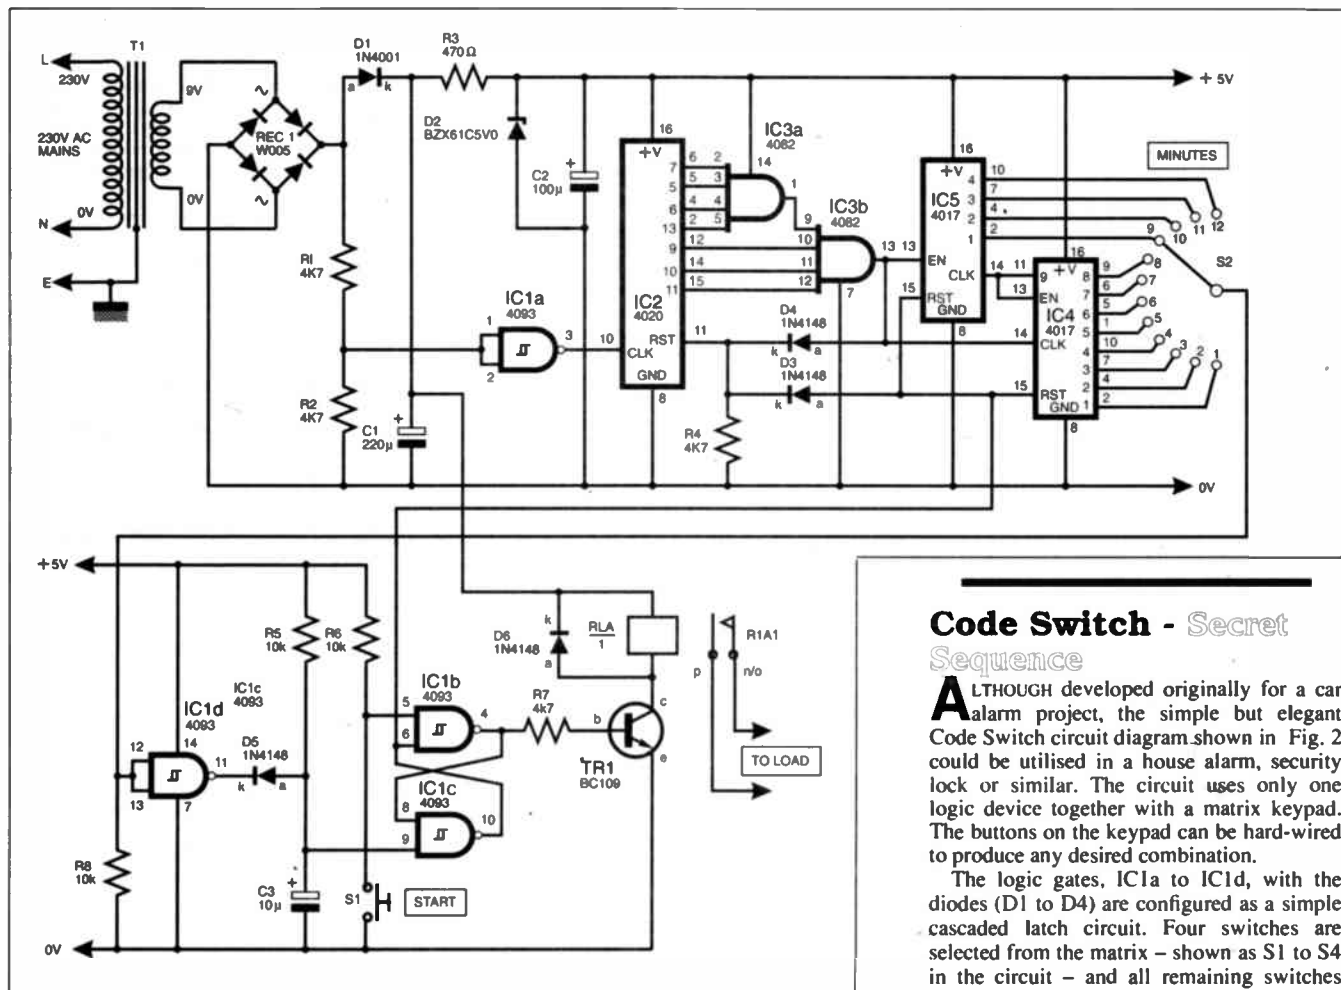

Fig. 1. Circuit diagram for the Accurate Minutes Timer.
**A**FTER building an Ultra-Violet Light Box for producing p.c.b.s, a timer circuit was required which would operate the tubes for a pre-determined time. The circuit diagram shown in Fig. 1 was designed to produce accurate periods of between 1 to 12 minutes, and could also be used as a darkroom timer or similar.